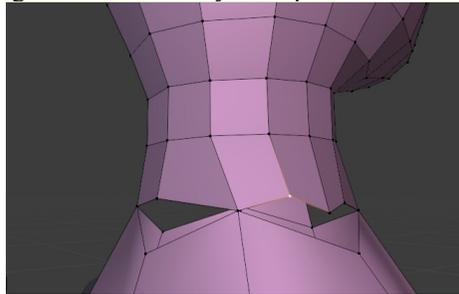

Figure 7-17 Stitching the head onto the body
14. The new_head and old body are all one mesh now but there is a gap between them that needs to be filled. Switch back again to Edit mode and join up the vertices from the top and bottom of the neck. You will have an even number on both sides of the gap so it will be possible to do it entirely with quads. Figure 7-17 shows my attempt.